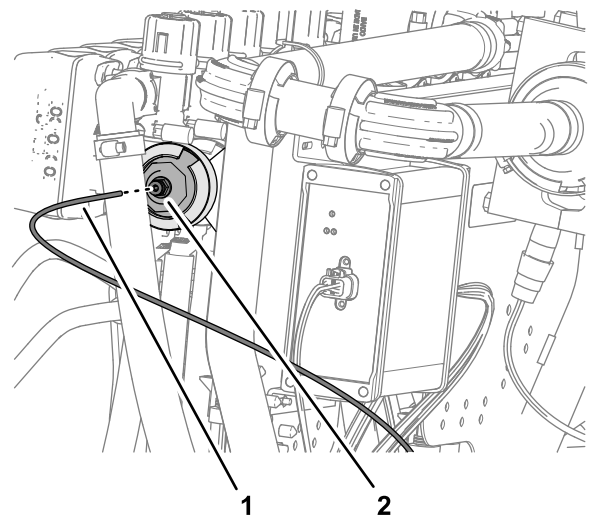

Figure 136
the locking collar for the tube coupler (Figure 136).
2. Insert the sense tube into the locking collar until the tube is fully seated (Figure 136).